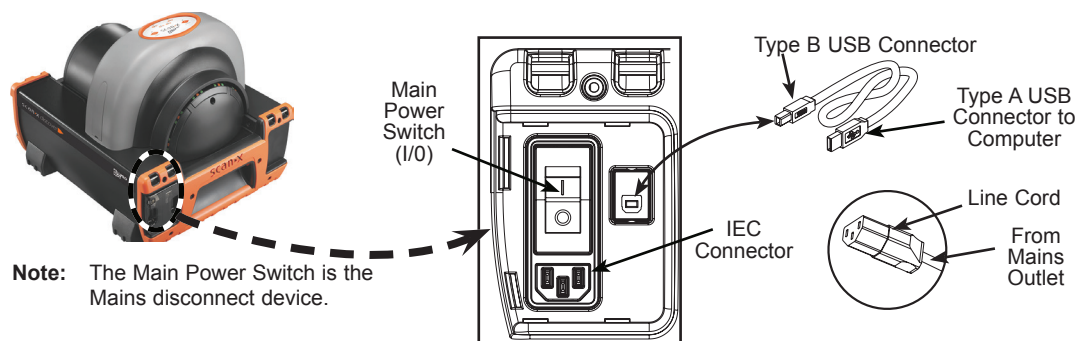

Figure 5. ScanX Connections
Refer to Figure 5 and perform the following procedure to connect the ScanX (with or without battery) for operation to a computer for the first time.
Refer to Figure 5 and perform the following procedure to reconnect the ScanX to a previously initialized computer for normal operation using Mains AC power.
1. Refer to Figure 5, make sure the ScanX is properly setup and perform either step a or b depending on power used.